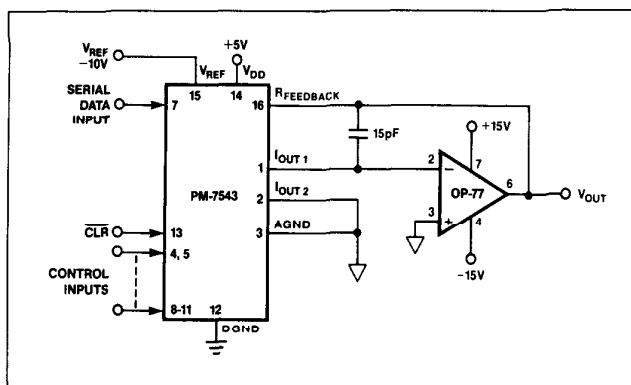

FIGURE 7: Unipolar Operation with High Accuracy Op Amp (2-Quadrant)
1. Phase compensation (see Figures 7 and 8).
In most applications, linearity depends upon the potential of I_{OUT1} , I_{OUT2} , and AGND (pins 1, 2, and 3) being exactly equal to each other. In most applications, the DAC is connected to an external op amp with its noninverting input tied to ground (see Figures 7 and 8). The amplifier selected should have a low input bias current and low drift over temperature. The amplifier's input offset voltage should be nulled to less than $\pm 200\mu V$ (less than 10% of 1 LSB).
The circuit shown in Figures 7 and 8 may be used with an AC or DC reference voltage. The circuit's output will range between 0V and approximately $-V_{REF}$ (4095/4096) depending upon the digital input code. The relationship between the digital input and the analog output is shown in Table 2. The V_{REF} voltage range is the maximum input voltage range of the op amp or $\pm 25V$, whichever is lowest.
1. Nominal full scale for the circuits of Figures 7 and 8 is given by $FS = -V_{REF} \left(\frac{4095}{4096} \right)$.
2. Nominal LSB magnitude for the circuits of Figures 7 and 8 is given by $LSB = V_{REF} \left(\frac{1}{4096} \right)$ or $V_{REF} (2^{-n})$.
The transfer function for the PM-7543 connected in the multiplying mode as shown in Figures 7 and 8 is: